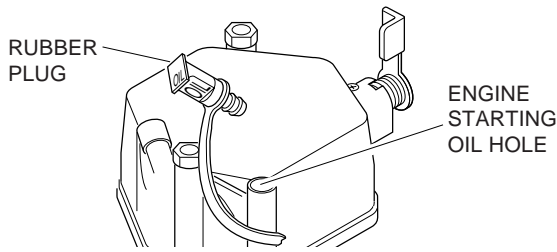

Figure 24 - Rubber Plug On Rocker Arm Cover
3. Remove the rubber plug on the rocker arm cover and add about 2cc of lube oil. Put the plug back in place (see Figure 24, page 19).